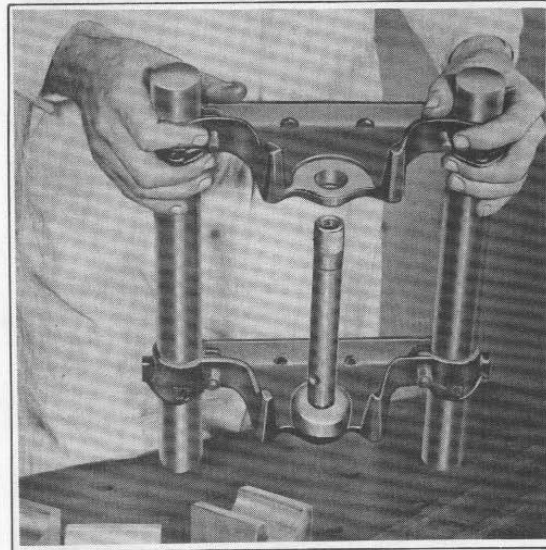

Figure 2-53. Checking Stem Alignment with Gauge
6. Check fork stem alignment with Fork Stem and Bracket Aligning Gauge as shown in Figure 2-53. Use Bending Bar to bring stem into position. Recheck the fork completely.